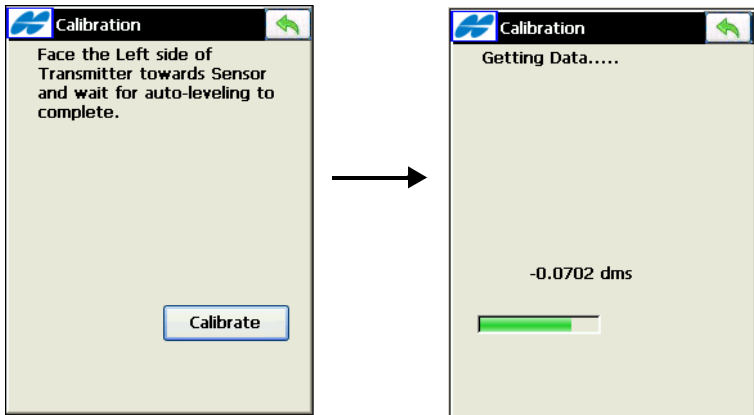

Figure A-17. Turn Transmitter to Left and Collect Data
9. Turn the transmitter 90° so the left side faces the transmitter. Tap **Calibrate** (Figure A-17).